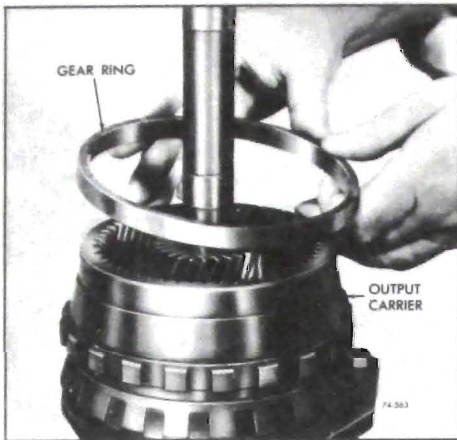

Figure 76-592
13. Install gear ring over output carrier. See Figure 76-592.